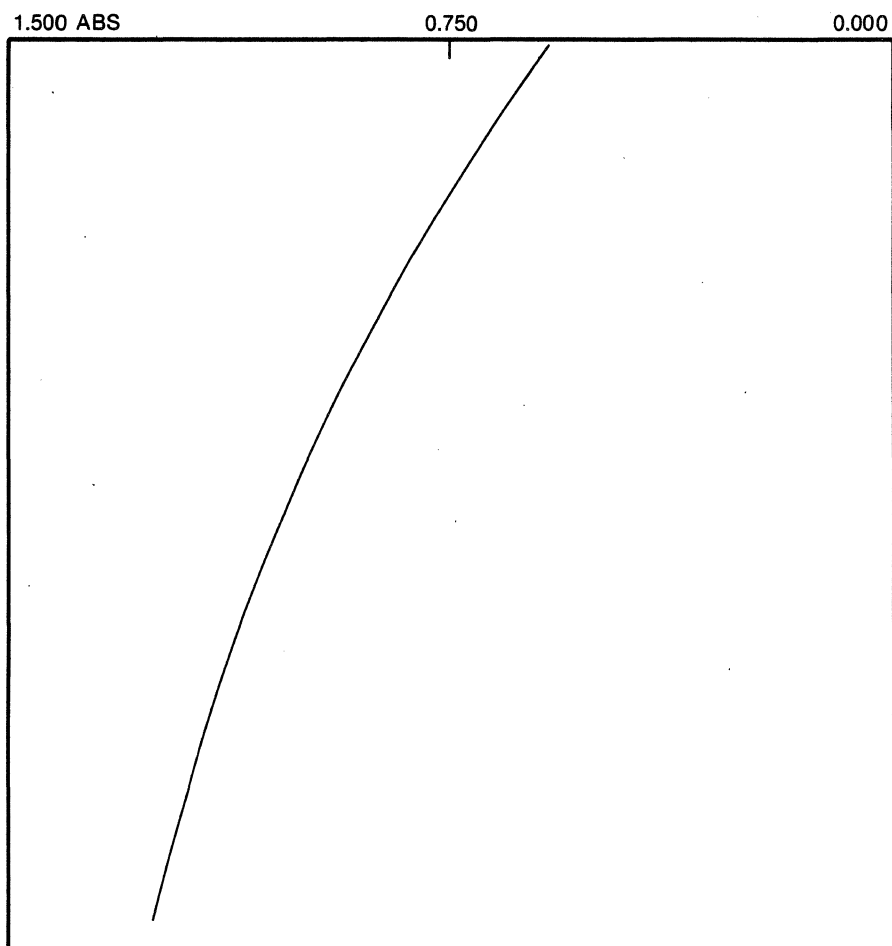

Figure 5-3. Sample Output for Method 3.
6. When all the parameters have been entered, press **Print List** to obtain a heading for the data, as shown at the top of Figure 5-3.
10. A sample of the printer/plotter output for Method 3 is shown in Figure 5-3.